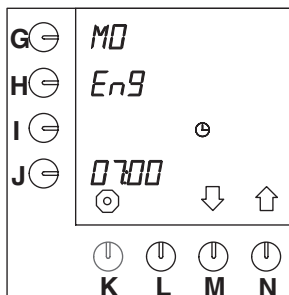

Fig. 30 Language setting
- After 10 seconds the default setting "EnG" appears flashing beside the programming key (fig. 30 ).